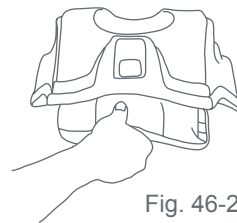
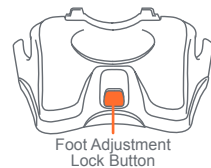

Fig. 46-2
Fig. 46-3
- If the Seat Angle Indicator shows **ANY** red, the Safety Seat is either **too upright or too reclined**. If the seat is too upright, extend the foot one position at a time just until no red shows. To extend the foot of the base, pull downward on the hand hold as shown in Fig. 46-2 while holding onto the base. To retract the foot, press inward on the lock button as shown in Fig. 46-3 and push upward on the foot. Be careful not to pinch your finger as the foot retracts. Check the level indicator to see if the seat is now level.